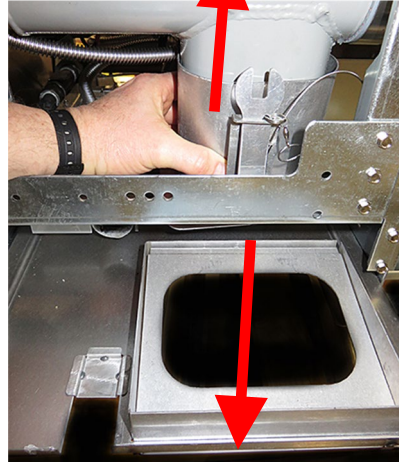

**Figure 6**
8. Lift upward on the side to remove (see Figure 6).